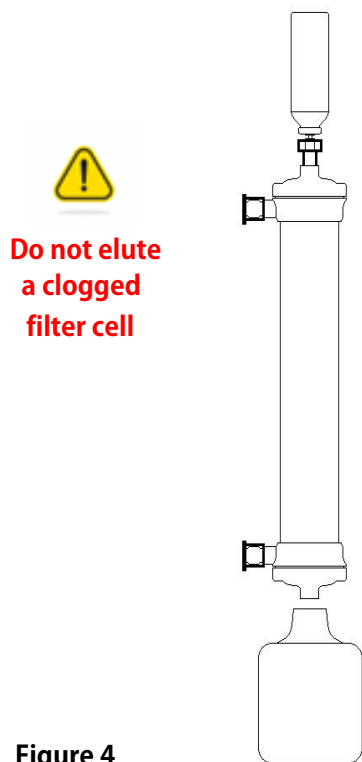

Figure 4
5. CONFIGURE FOR ELUTION (figure 4)
6. ELUTE SAMPLE (figure 4)